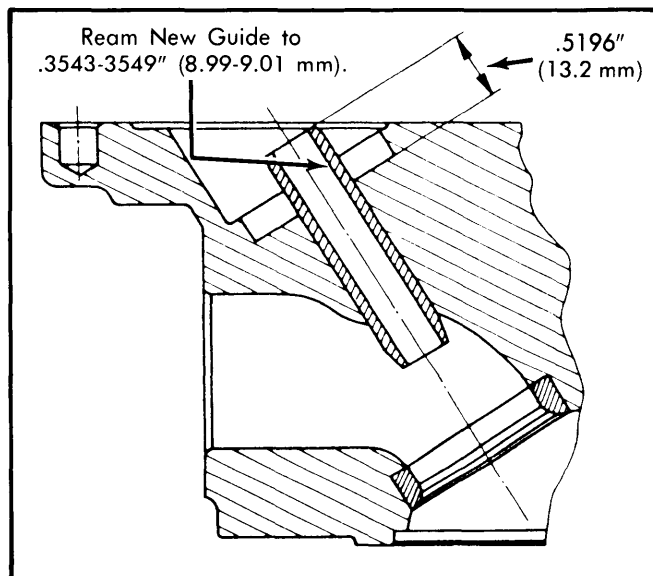

Fig. 5 Cross Sectional View of Valve Guide for Replacement
3) Press valve guide into head from camshaft side until a measurement of .5196" (13.2 mm) is reached. (See Fig. 5). Use suitable grease as a lubricant when pressing in valve guides. Bore or ream valve guide I.D. to .3543-.3549" (8.99-9.01 mm).